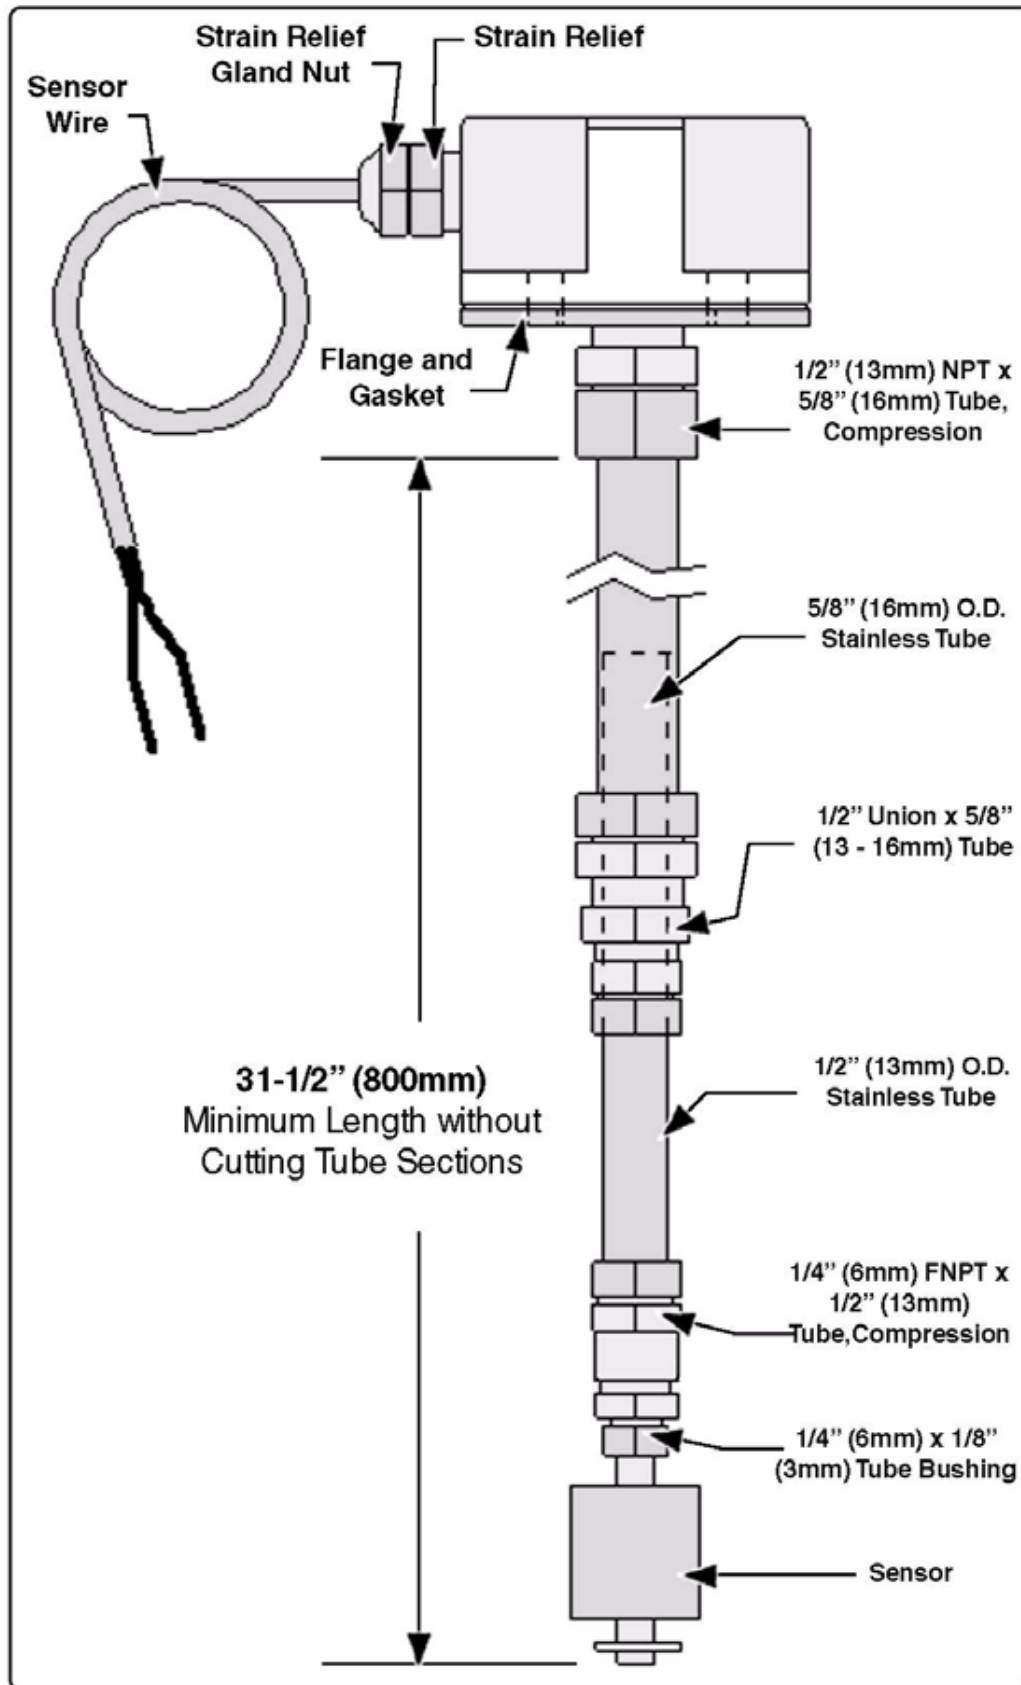

Figure 55: Top Mount Low Level Sensor Assembly
6. Adjust the telescoping section until the desired length is achieved as measured from the bottom of the flange to the bottom of the sensor. Tighten the compression fittings on the union to lock length setting (**Figure 55**).
Certain applications may require the top mounted sensor to be shorter than factory length (see **Figure 55: Top Mount Low Level Sensor Assembly**: Top Mount Low Level Sensor Assembly).